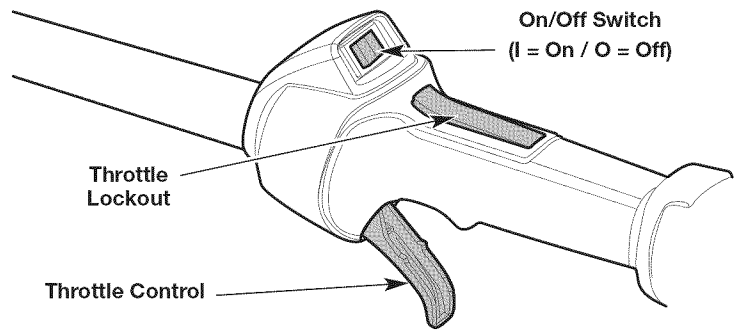
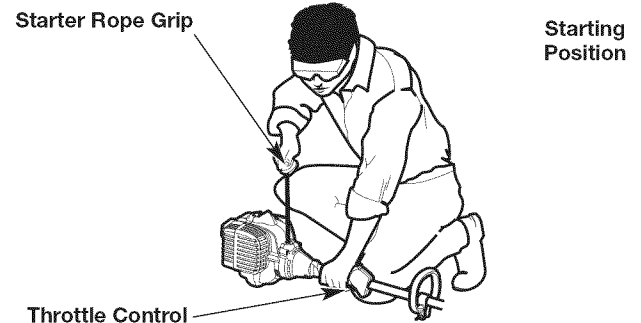

Fig. 7
Fig. 9
**WARNING:** Avoid accidentally starting the unit. To avoid serious injury, the operator and the unit must be in a stable position when pulling the starter rope (Fig. 9).
**NOTE:** There is no need to turn the unit on. The On/Off switch is in the **On (I)** position at all times (Fig. 7).
5. Crouch in the starting position (Fig. 9).
6. Press and hold the throttle lockout. Squeeze and hold the throttle control (Fig. 7). Pull the starter rope with a controlled and steady motion **5 times** (Fig. 9).
2. Press and hold the On/Off switch in the **Off (O)** position until the engine comes to a complete stop (Fig. 7).